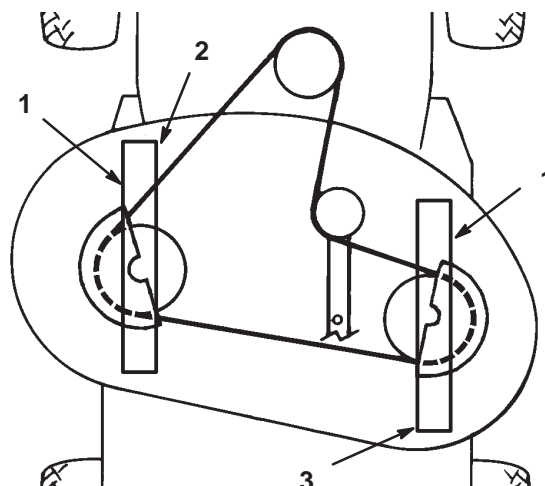

Figure 11
4. Carefully rotate blades so they are facing front and rear (Fig. 11).
5. Measure between the tip of the front blade (Fig. 11). and the tip of the rear blade to the flat surface. If the front blade tip is not 0–1/8" (0–3.2 mm) lower than the rear blade tip adjust front adjustment link.